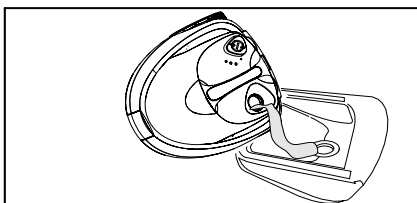

Figure 10
- ➔ Empty water out. Tilt the device towards the corner with the funnel inlet (see Fig. 10).